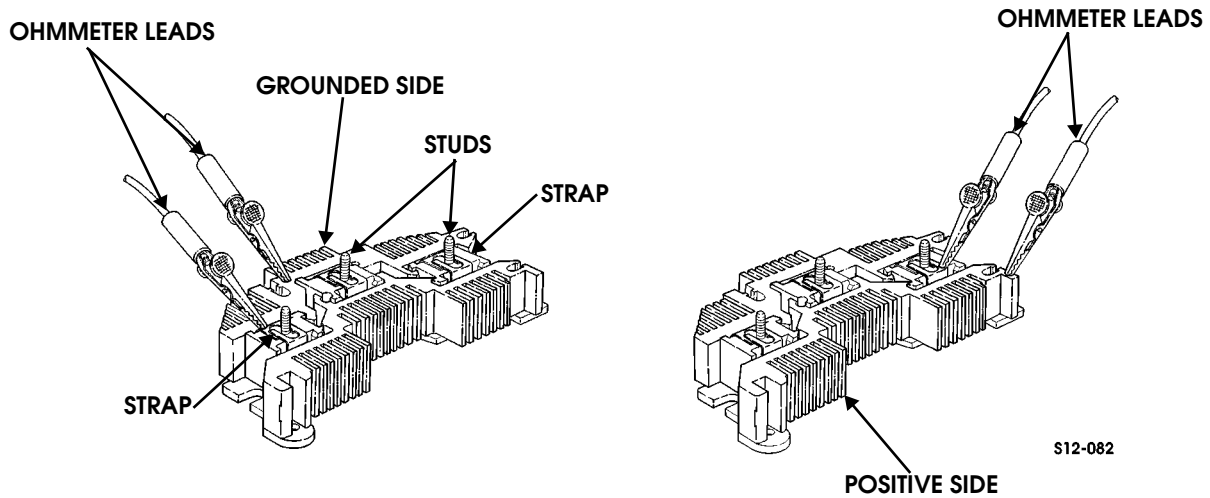

Figure 12-39: Rectifier Bridge Check
2. Connect the ohmmeter leads to the grounded side and strap as shown and take readings at each strap (Figure 12-39).
5. Connect ohmmeter leads on positive side and strap as shown, and take readings at each strap (Figure 12-39).